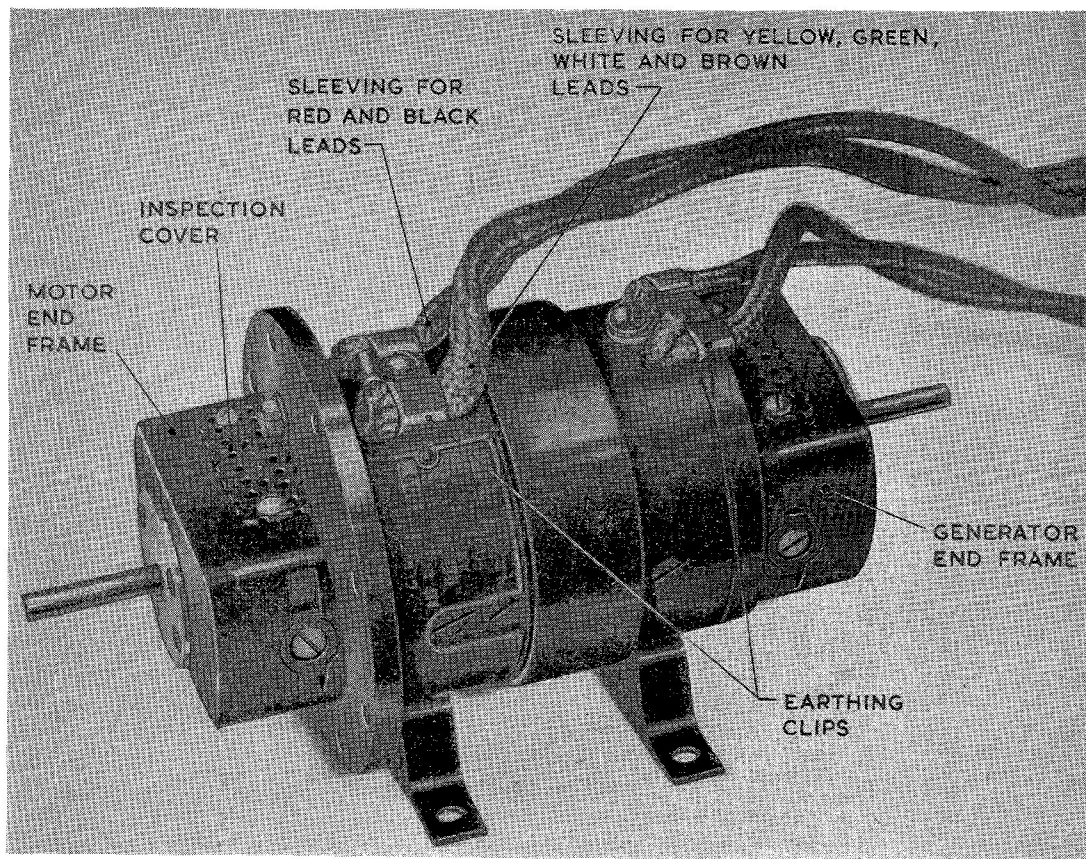

Fig. 1. Rotary transformer, Type 88X
1. The rotary transformer, Type 88X (fig. 1) is used in conjunction with automatic computing devices. With an input of 15 volts d.c. and at a speed of 6,000 r.p.m., it will deliver an output of 38 volts d.c.  $\pm 10$  per cent; the voltage output is directly proportional to the speed within 2 per cent.